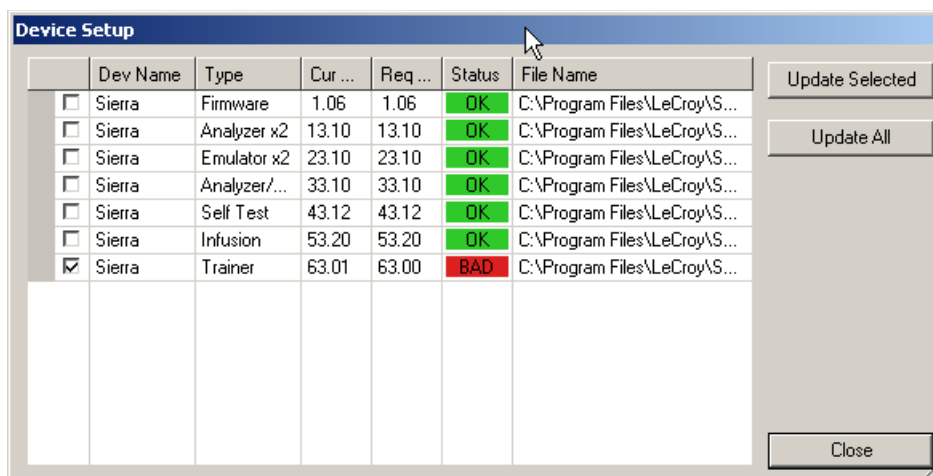

Figure 3.132: Device Setup Dialog with BAD Device Status
1. Click **Setup > Update Sierra Device** to display the Device Setup dialog (see Figure 3.132 on page 209).